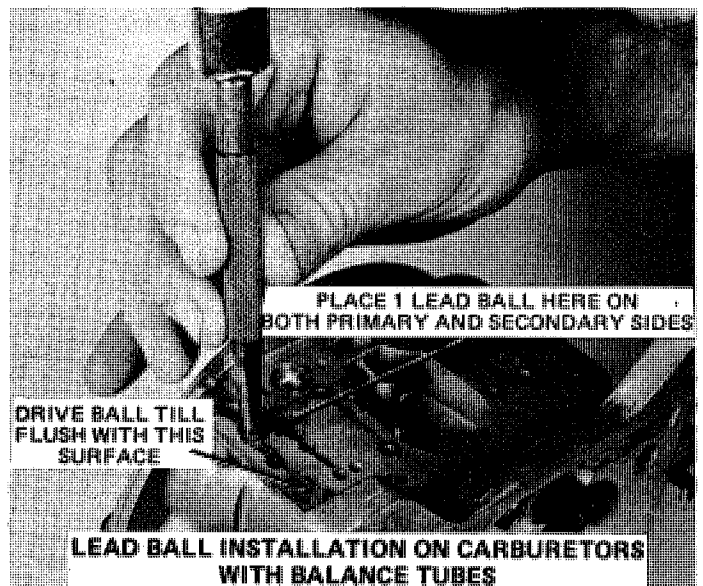

Fig. 6
- c. Take the two lead balls from the kit, place one each over the holes left by the balance tube and drive them into the hole using a broad-tipped nail set or other suitable tool. See Figure 6. The lead balls should be driven into the balance tube holes in such a way that they expand tightly to prevent leakage. Lead balls, when installed must be below recessed surface of carburetor main body.